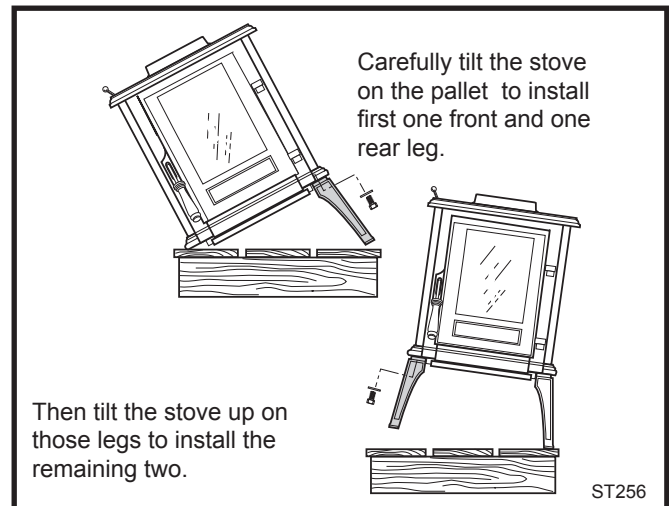

Fig. 12 Install legs on one side of stove then the other.
2. Install two legs, using the hex head bolts with washers from the parts bag. The shoulder of the legs should seat within the locator bosses cast into the stove bottom at each corner. (Fig. 12) Tighten the bolts with the wrench. **CAUTION: Overtightening can strip tapped threads.**